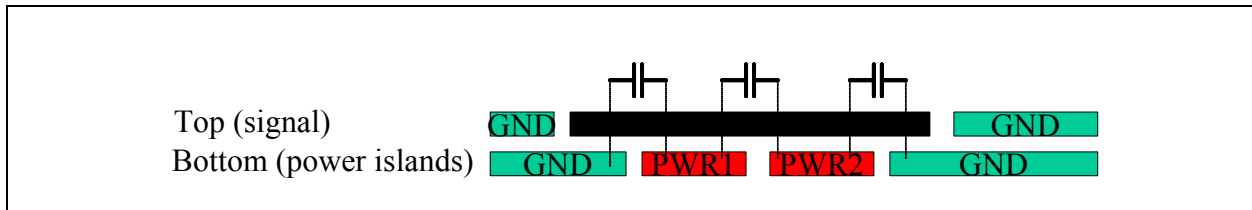

Figure 2.2 2 Layer Stackup Power and Ground Decoupling
- Decouple ground planes as practical, as shown below in Figure 2.2. This will allow short (direct) return current paths when signal traces are re-referenced to different power island planes.